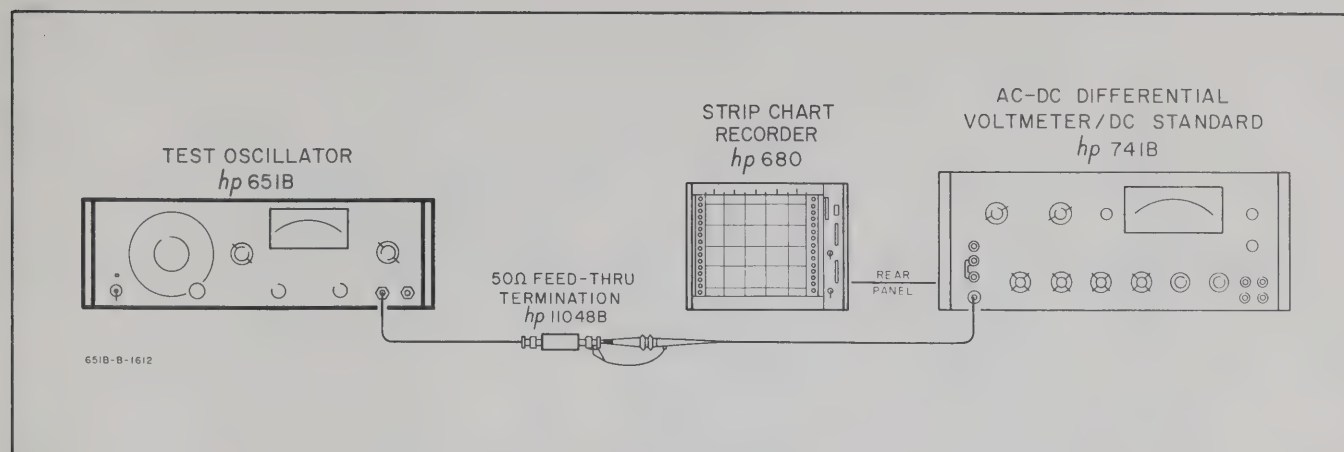

Figure 5-6. Amplitude Stability Check
- a. Connect ac differential voltmeter and strip chart recorder to 651B as shown in Figure 5-6. For Option 02-651B, use 75 Ω feed-thru termination (-hp- Model 11094A).